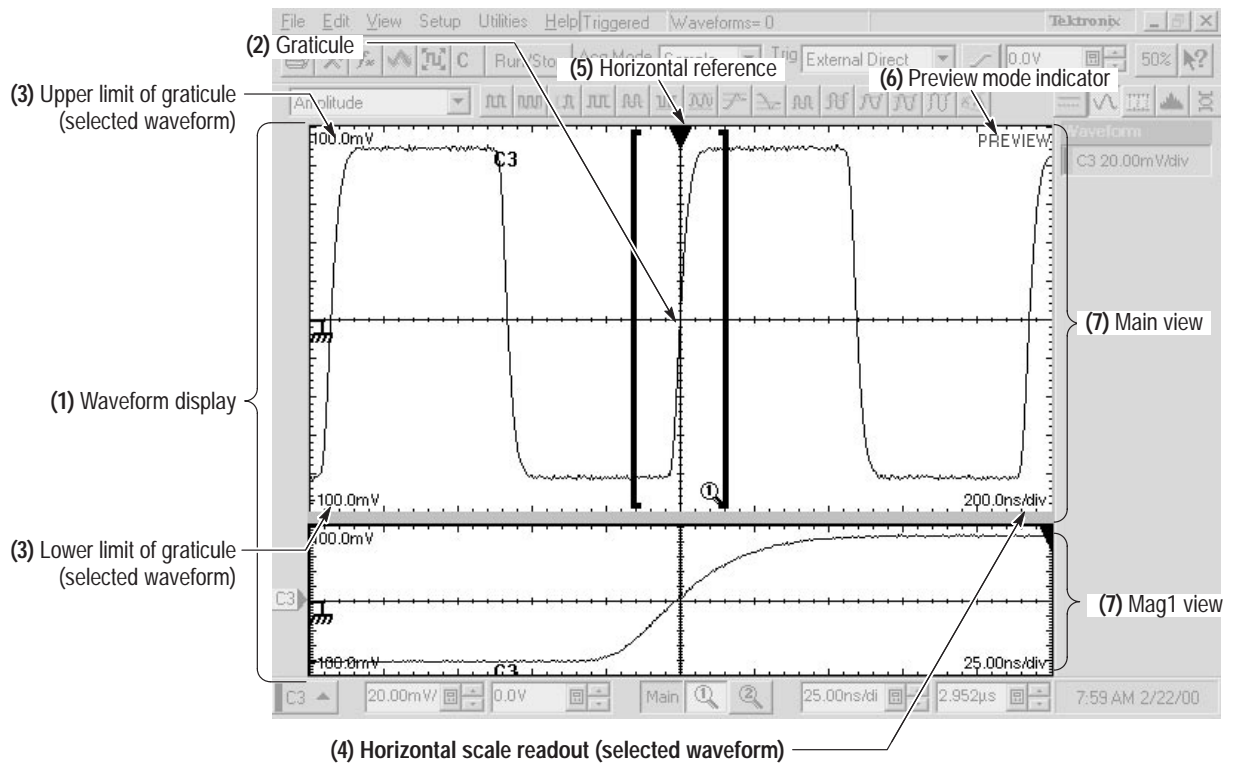

Figure 3–16: Display elements
The waveform display (see Figure 3–16) is part of the User Interface (UI) application. The UI takes up the entire screen of the instrument and the waveform display takes most of the UI. Some terms that are useful in discussing the waveform display follow.